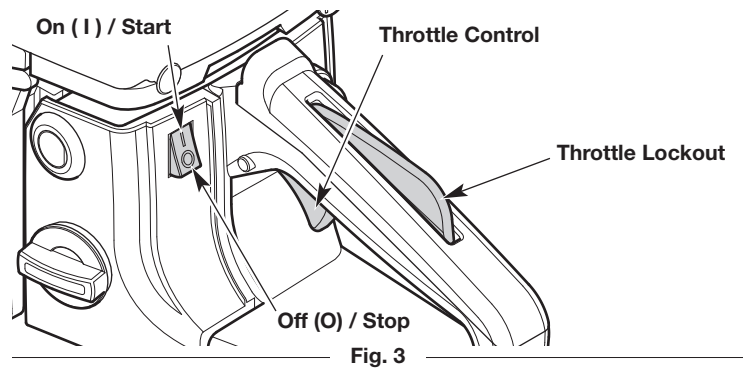

Fig. 3
5. Move the On/Off switch to the **On** position (Fig. 3).
NOTE: **DO NOT** touch the throttle control until step 14 (Fig. 3).
8. **DO NOT** touch the throttle control (Fig. 3). Set the unit on a flat, level surface. Clear the area of any objects that could contact the saw chain.
2. Move the On/Off switch to the **Off** position (Fig. 3). Wait for the saw chain to come to a complete stop.